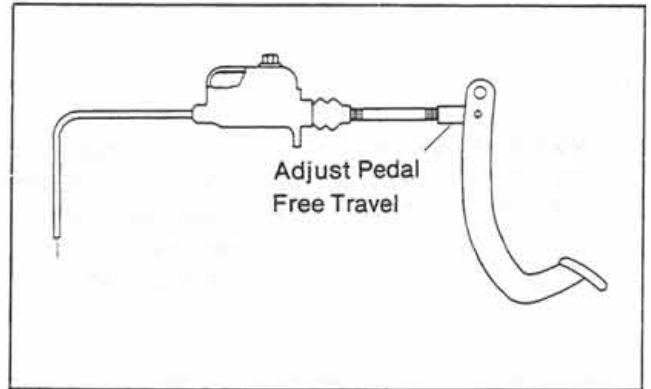

Figure 13:
2. Adjust the pushrod to allow some free play between the pedal and piston. After zero clearance, one full turn of the pushrod into the yoke is appropriate (Fig. 13).